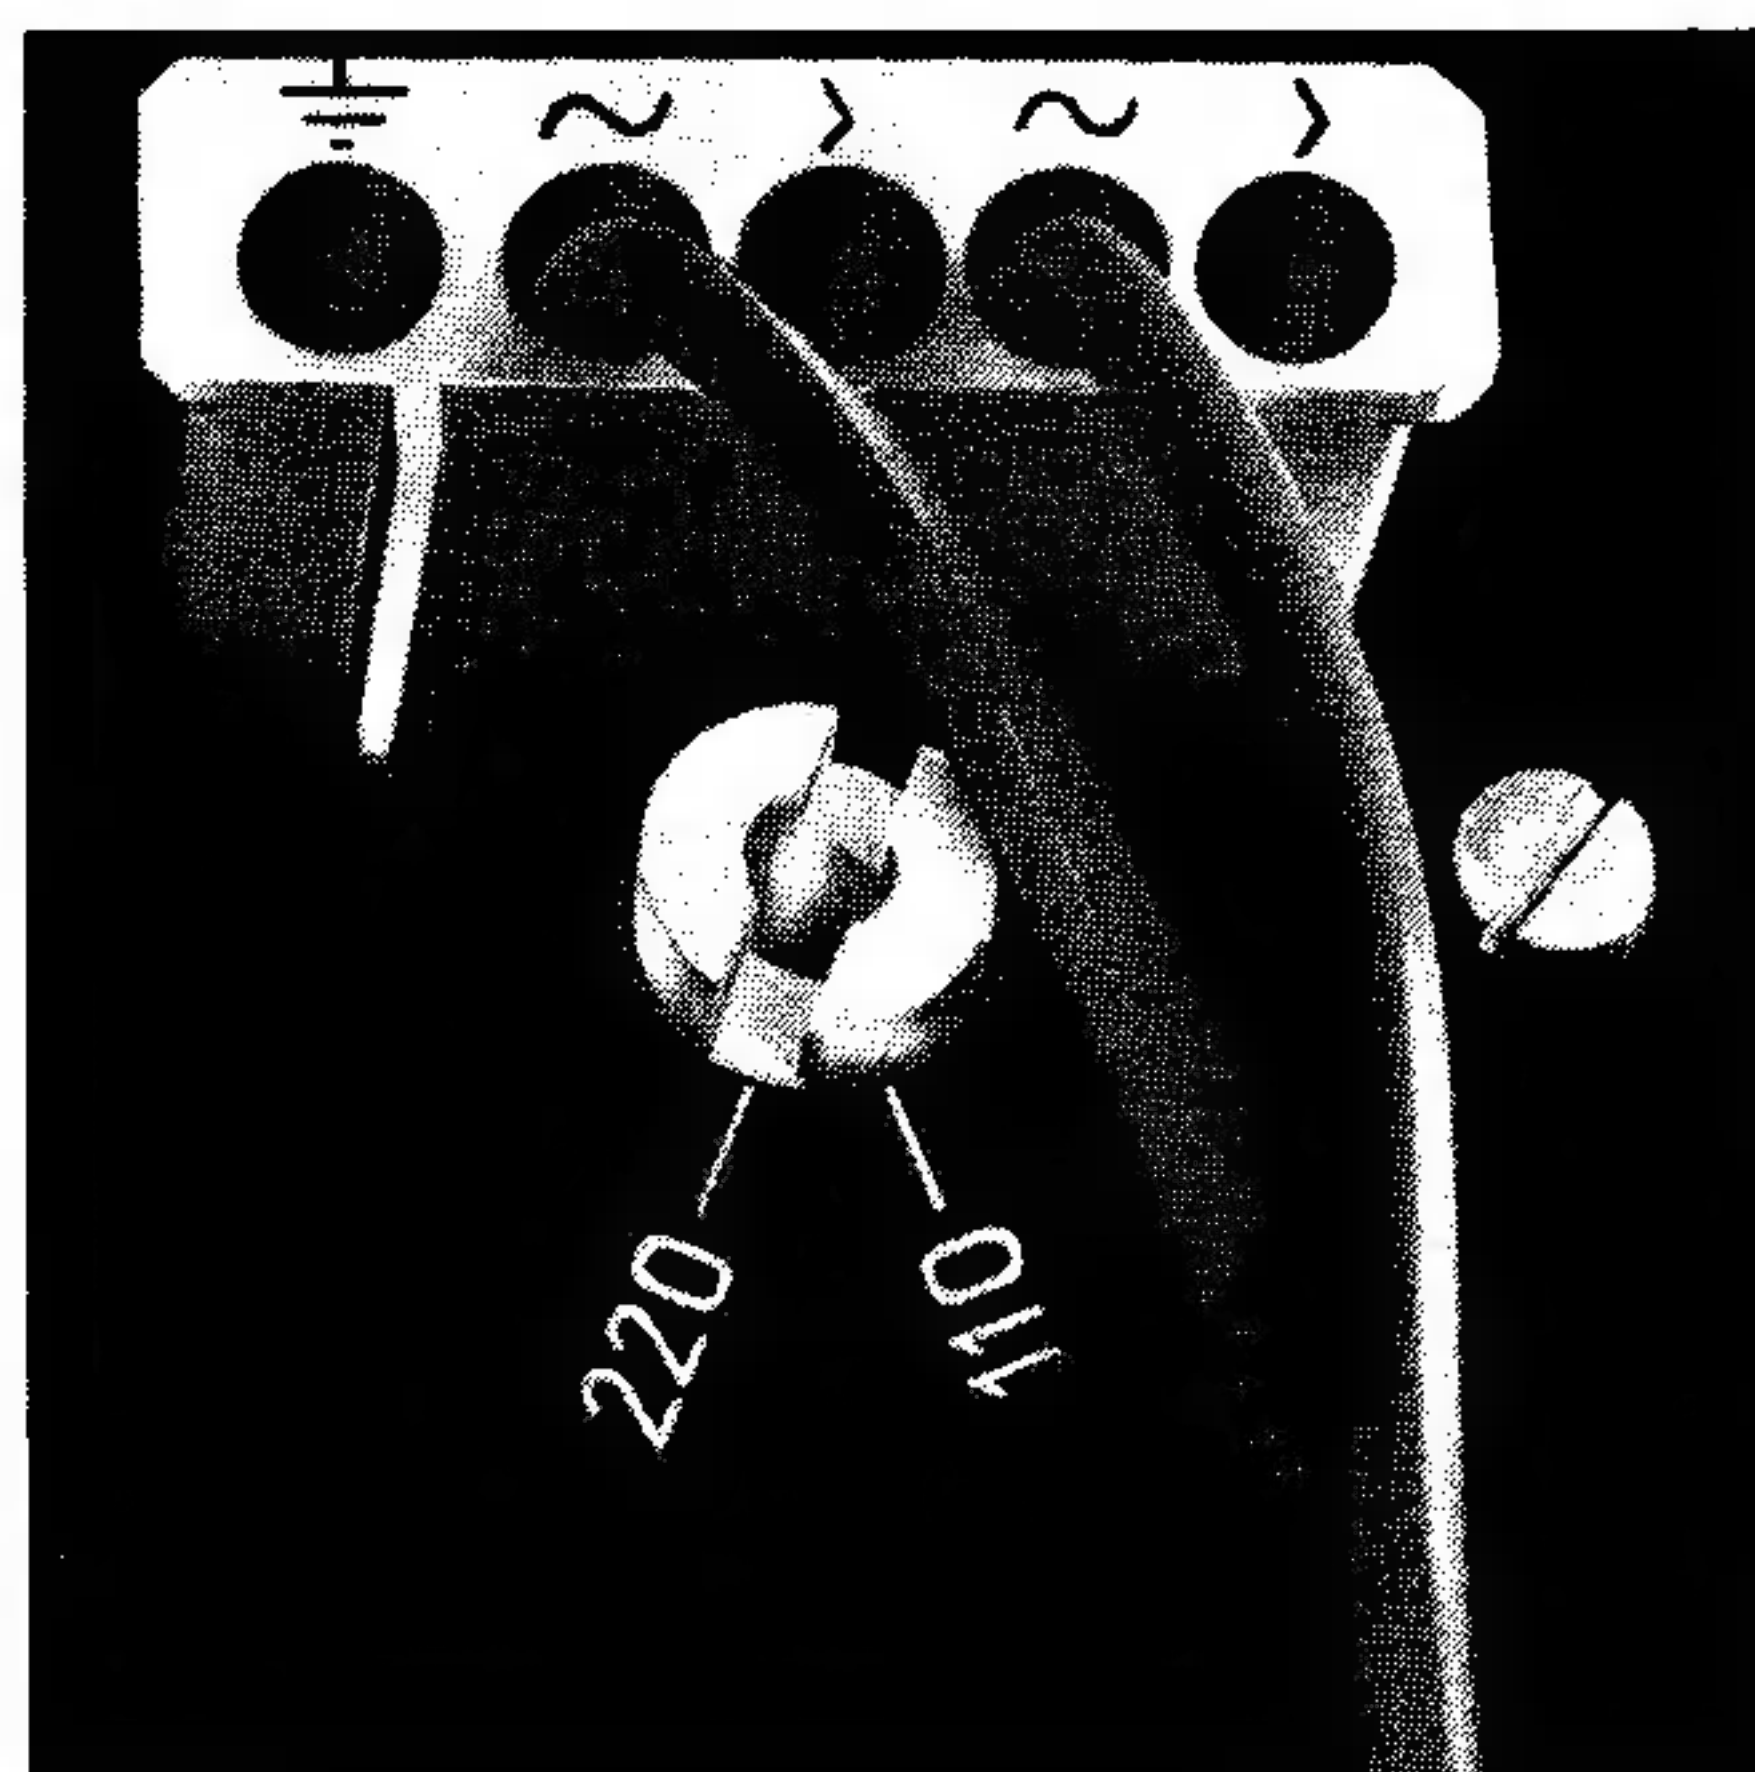

Fig. 2
B. No. 213 982; AMP-No. 160 565/1 (Fig. 2) for 5-pole power supply plug
If the unit is to be connected to a power-transformerless ("ac-dc") radio, amplifier or other equipment, a suitable ground connection must be made to prevent a possible shock hazard. A contact is available for this purpose on the power connector (Figs. 2 and 3).